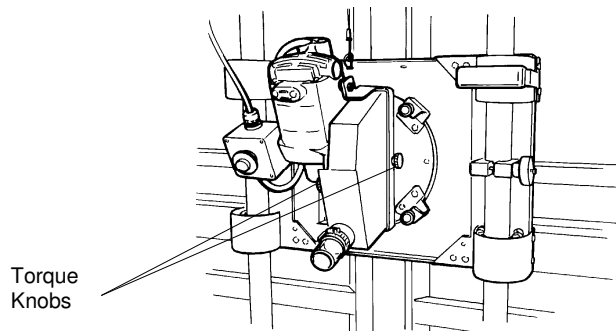

Figure 21: Installing the Blade Guard (Models 6400, 6800)
The blade guard is attached to the carriage with the red torque knobs (22), Figure 20 or Figure 21. Remove the torque knobs to remove the guard. Be sure to leave the rubber washers on the torque knobs because they prevent the knobs from slipping. Always install the blade guard before operating the saw (21).